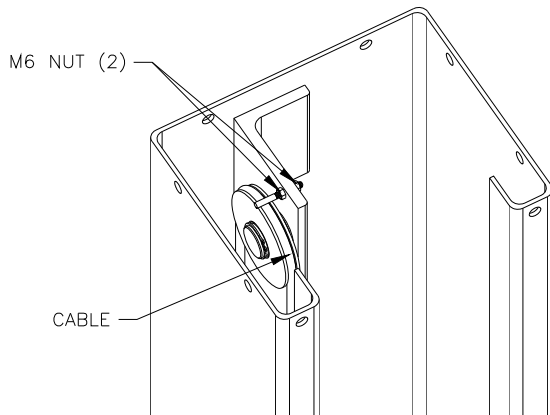

Fig 7-Upper Sheave
- 19) Remove the cable trapping bolt assembly, **Fig 7**, on the top sheave. Route the cable up through the carriage and over the sheave. Reinstall the cable trapping bolt assembly once cable is routed properly.